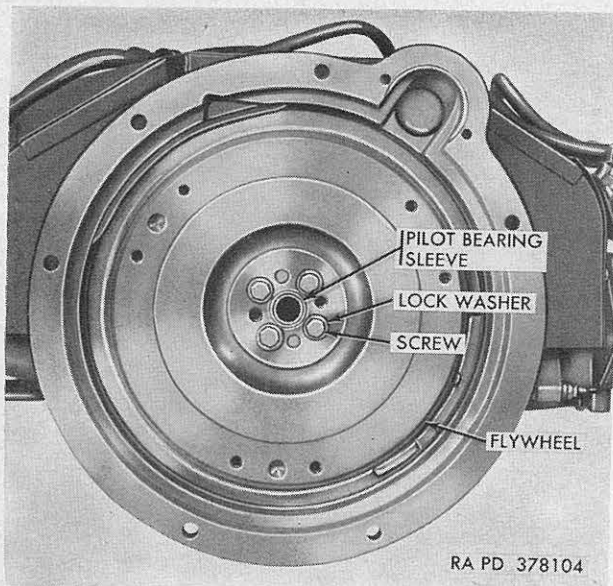

Figure 33. Engine with clutch disk removed showing flywheel.
- (3) Remove four hex-head screws (fig. 33) and lockwashers securing flywheel to crankshaft and remove flywheel. If necessary to replace clutch pilot bearing sleeve, press out of flywheel with arbor press.
- (5) If clutch pilot bearing sleeve (fig. 33) was removed from flywheel, press in new sleeve making sure ends of sleeve are flush with faces of flywheel hub.